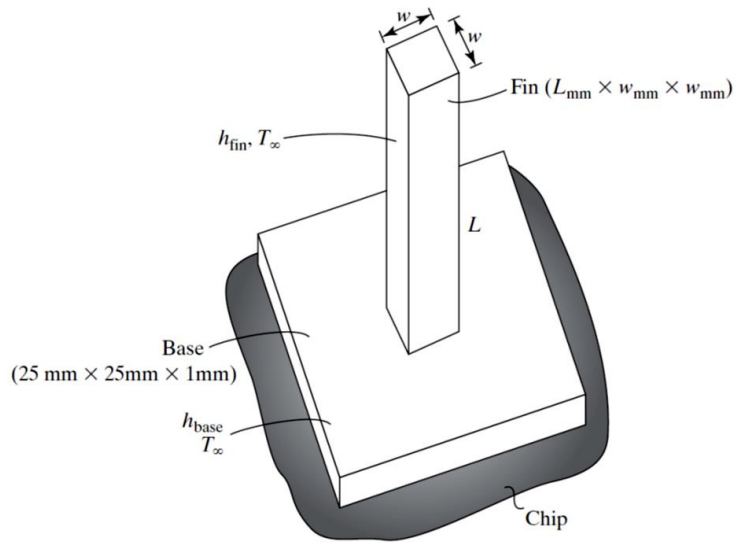

FIGURE P10.32
10.32. A single fin is attached to a base plate to remove heat generated by a computer chip underneath. The power generated by the chip is 8 W. Treating this as a uniform heat flux into the base, determine the maximum temperature at the base (Fig. P10.32). Use the following data: